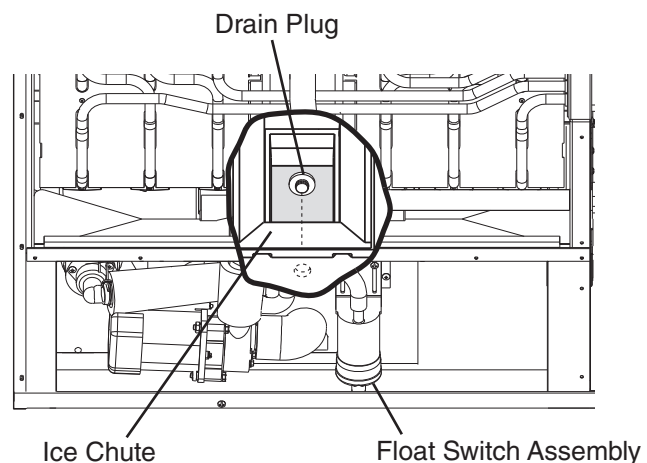

Fig. 19
- 7) Remove the insulation panel. Remove the drain plug located on the lower front part of the ice chute. See Fig. 19. Allow the water tank to drain.
- 5) Remove the drain plug located on the lower front part of the ice chute. See Fig. 19. Allow the water tank to drain.
- 3) Remove the insulation panel. Remove the drain plug located on the lower front part of the ice chute. See Fig. 19. Allow the water tank to drain.